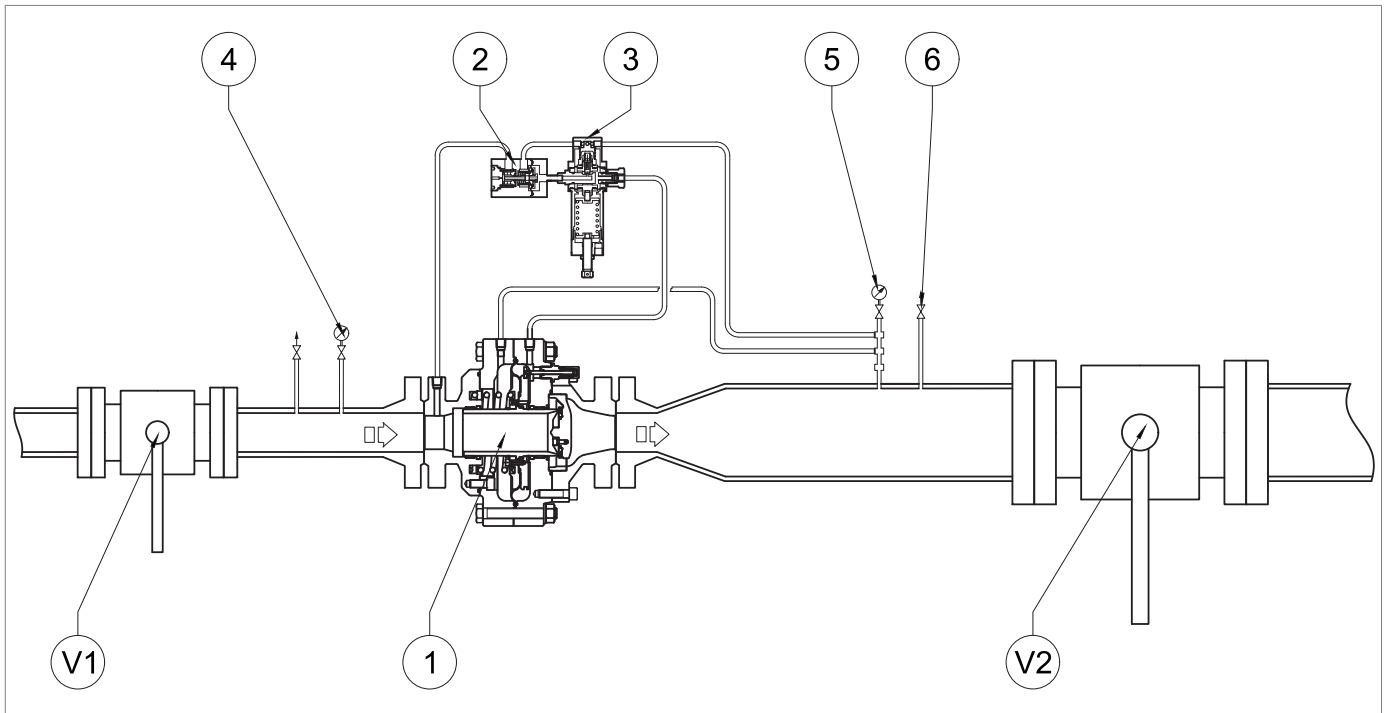

Fig. 8.24.
1	<p>By adjusting the main regulator, increase the downstream pressure up to the tripping value of the slam-shut valve, to check for proper calibration.</p> <p>! NOTICE!</p> <p>Check the pressure referring to the pressure gauge (Fig. 8.24, ref.5) downstream of the main regulator. If the slam-shut valve:</p> <ul style="list-style-type: none"> trips before the expected pressure value: screw in (clockwise) the adjustment ring nut (13) so as to further compress the spring (11); does not trip at the expected pressure value: unscrew (anti-clockwise) the adjustment ring nut (13) so as to relieve the spring (11).
2	By opening the vent (Fig. 8.24, ref.6), decrease the pressure in the downstream section to the calibration value of the main regulator.
3	Close the vent (Fig. 8.24, ref. 6).
1	Open the vent (Fig. 8.24, ref. 6) to the atmosphere and keep it open for the subsequent phases.
2	<p>Decrease the downstream pressure to the minimum tripping pressure of the slam-shut device by adjusting the pilot.</p> <div style="border: 1px solid black; padding: 5px;"> <p>! NOTICE!</p> <p>Check the pressure referring to the downstream pressure gauge (Fig. 8.24, ref. 5).</p> <p>If the slam-shut valve:</p> <ul style="list-style-type: none"> • trips before the expected pressure value: unscrew (anti-clockwise) the adjustment ring nut (15) so as to relieve the spring (17); • does not trip before the expected pressure value, screw in (clockwise) the adjustment ring nut (15) so as to further compress the spring (17). </div>